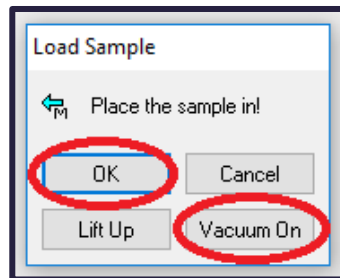

Figure. 14
14. Close the lid and then press “Vacuum On” and “OK” in Load Sample pop up. This would scan the wafer for its boundaries. (Figure. 14)